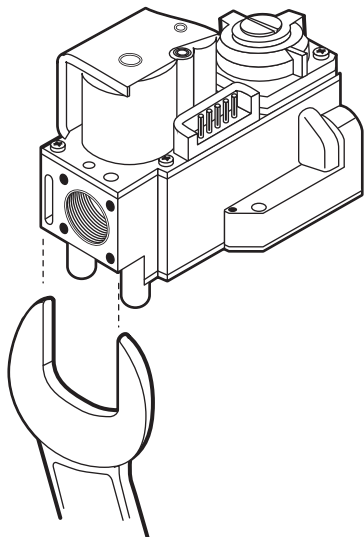

Fig. 3.
- Tighten gas control using the right open end wrench. fig. 3